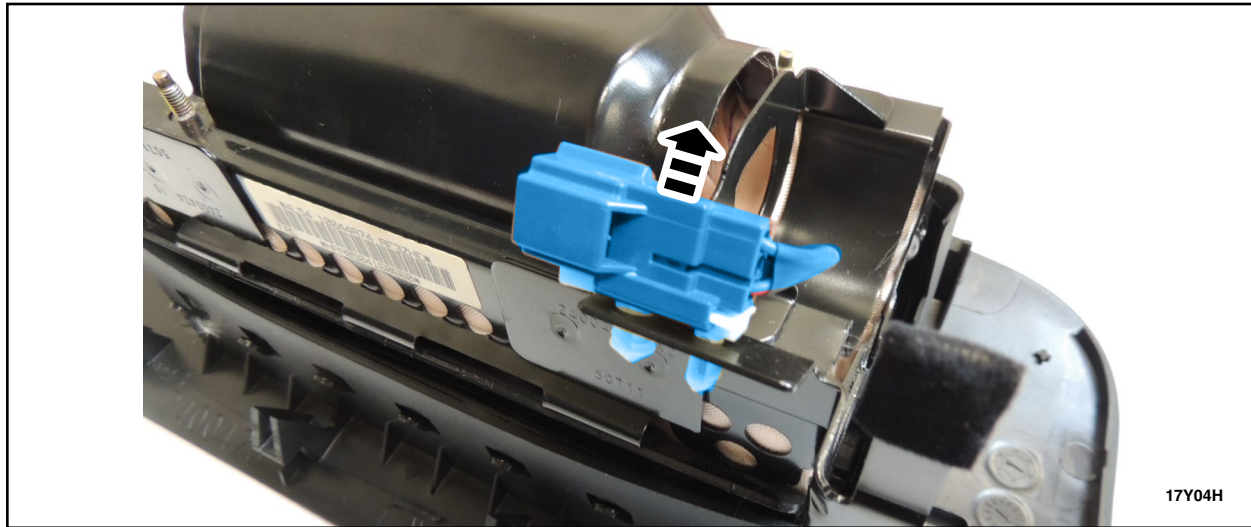

FIGURE 10
8. Remove the airbag inflator harness electrical connector. See Figure 10.